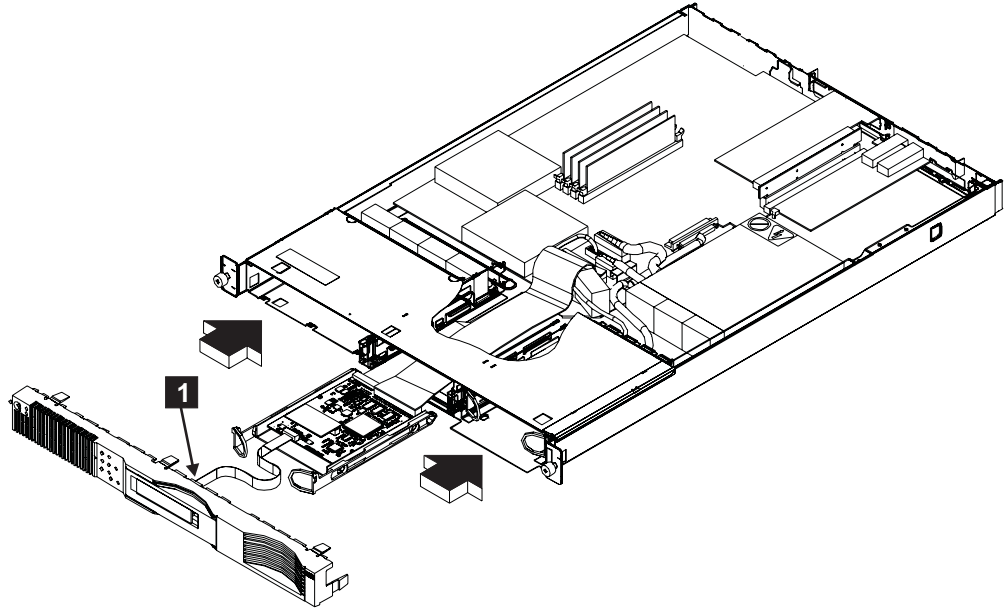

Figure 59. Replacing the front panel of the SAN Volume Controller 2145-4F2
1. Connect the cable **1** to the front panel. See Figure 59 on page 77.